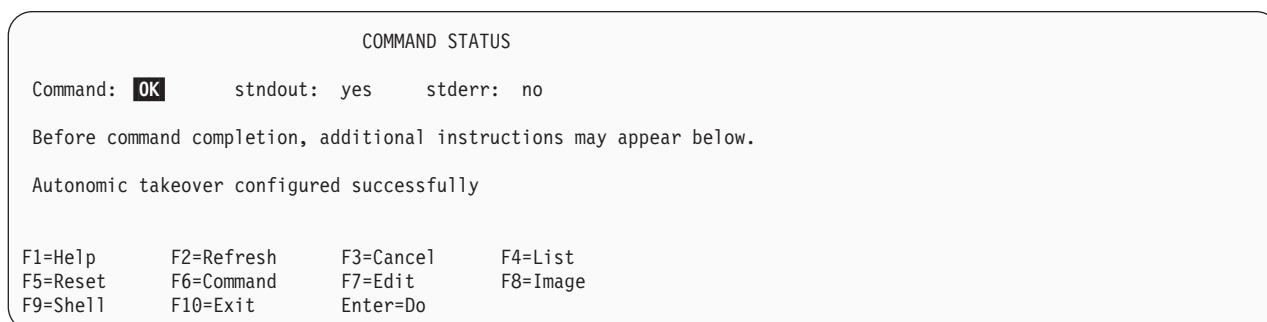

Figure 2-19. Processing AOTM To a Remote Cluster
8. Press **Enter**. You see Figure 2-19.